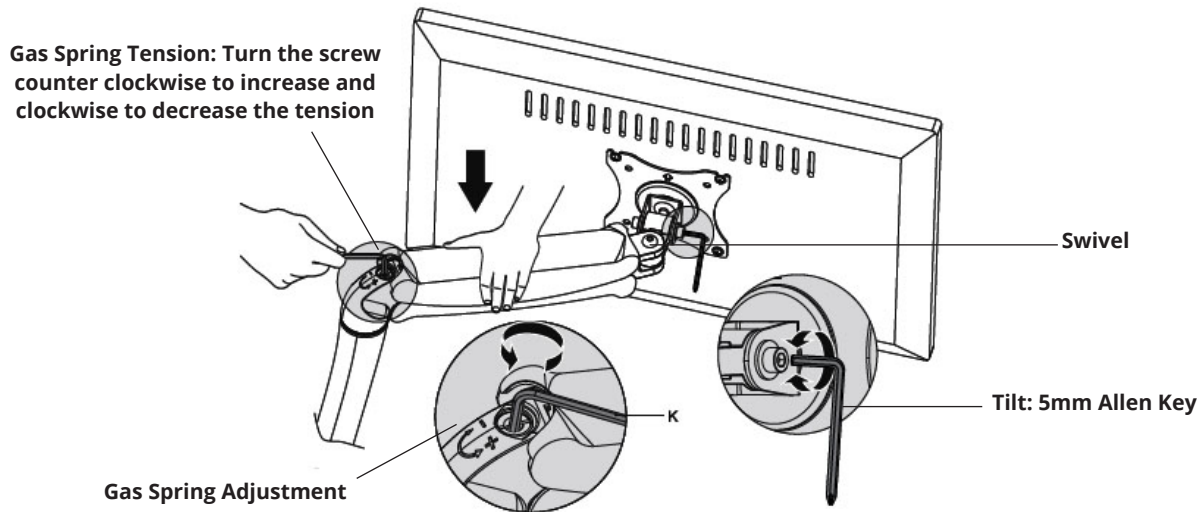

Figure 9
1. Adjust the tension of the gas spring using a 5mm Allen Key (K), turn the screw counter clockwise to increase the tension and clockwise to decrease the tension, see Figure 9.
2. Adjust tightness of the Monitor Tilt and Swivel using a 5mm Allen Key, see Figure 9.